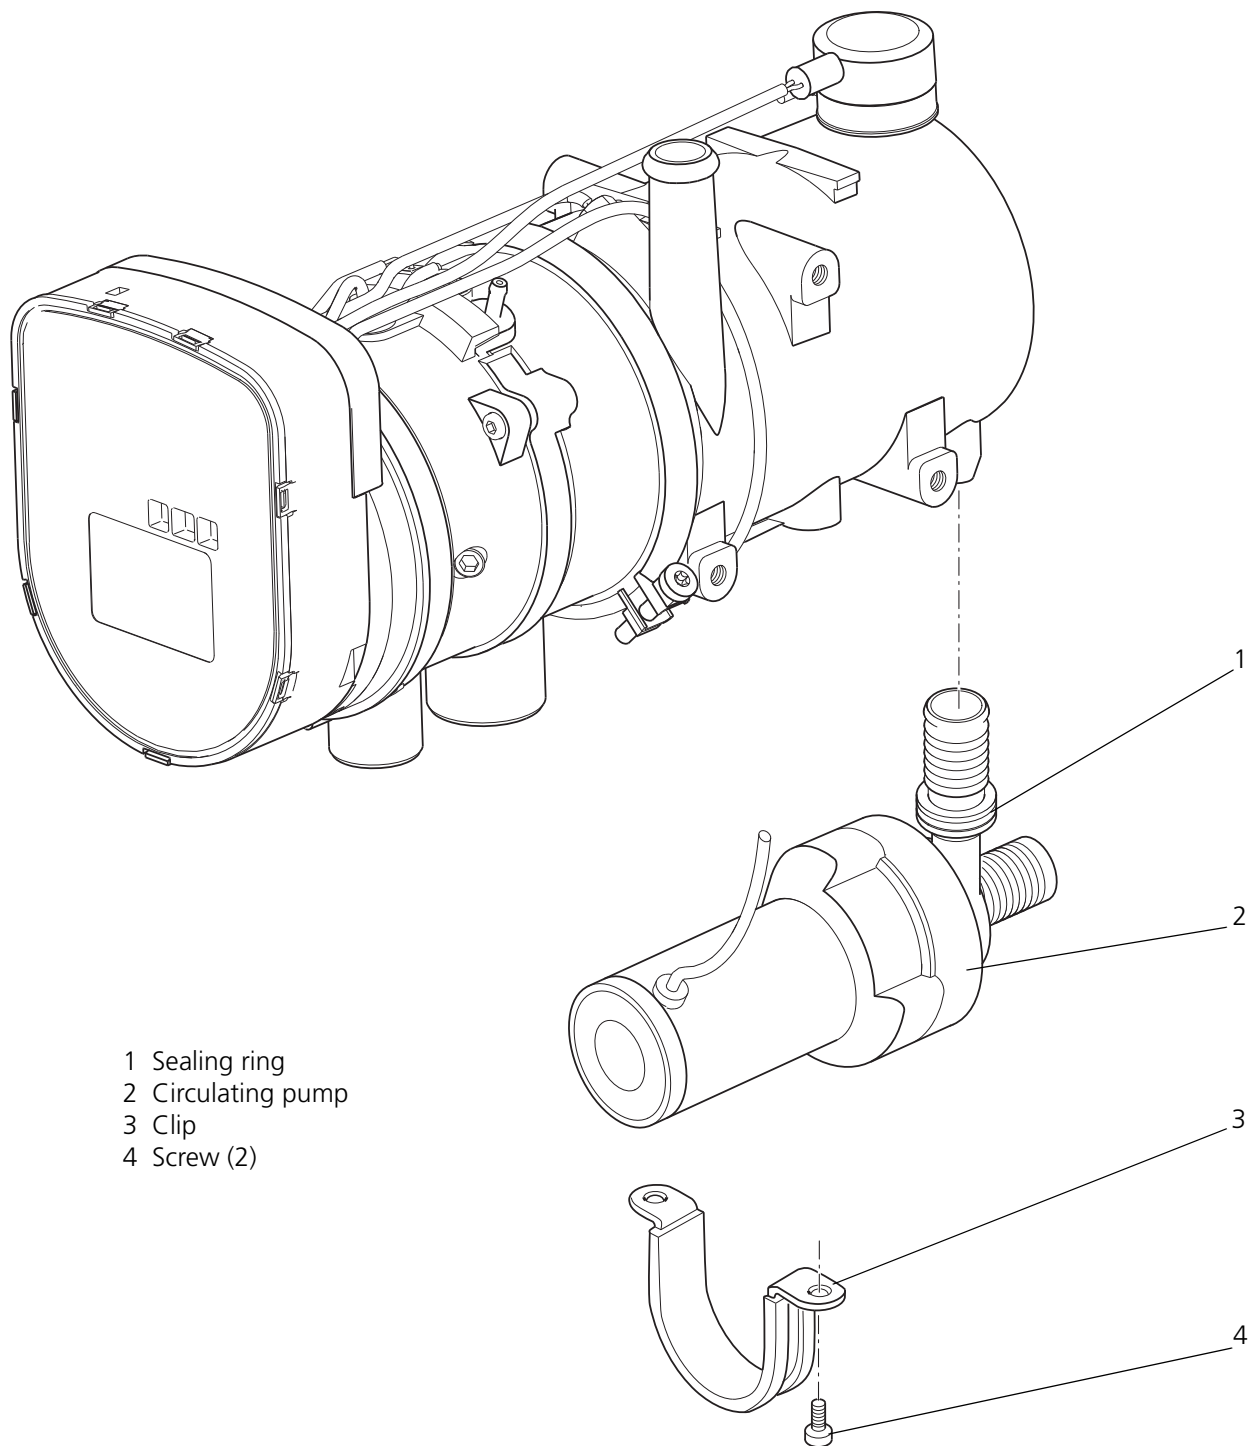

Figure 25: Replacing the circulating pump
2. Remove the screws (4, Fig. 25).
3. Remove the clip (3) and circulating pump (2).
1. Apply acid-free grease (Vaseline) to the sealing ring (1, Fig. 25).
2. Place the circulating pump (2, Fig. 25) in the assembly position and attach with the clip (3) and screws (4).
3. Tighten the screws (4) to 3 Nm (26.5 lb-in) $\pm 10\%$.